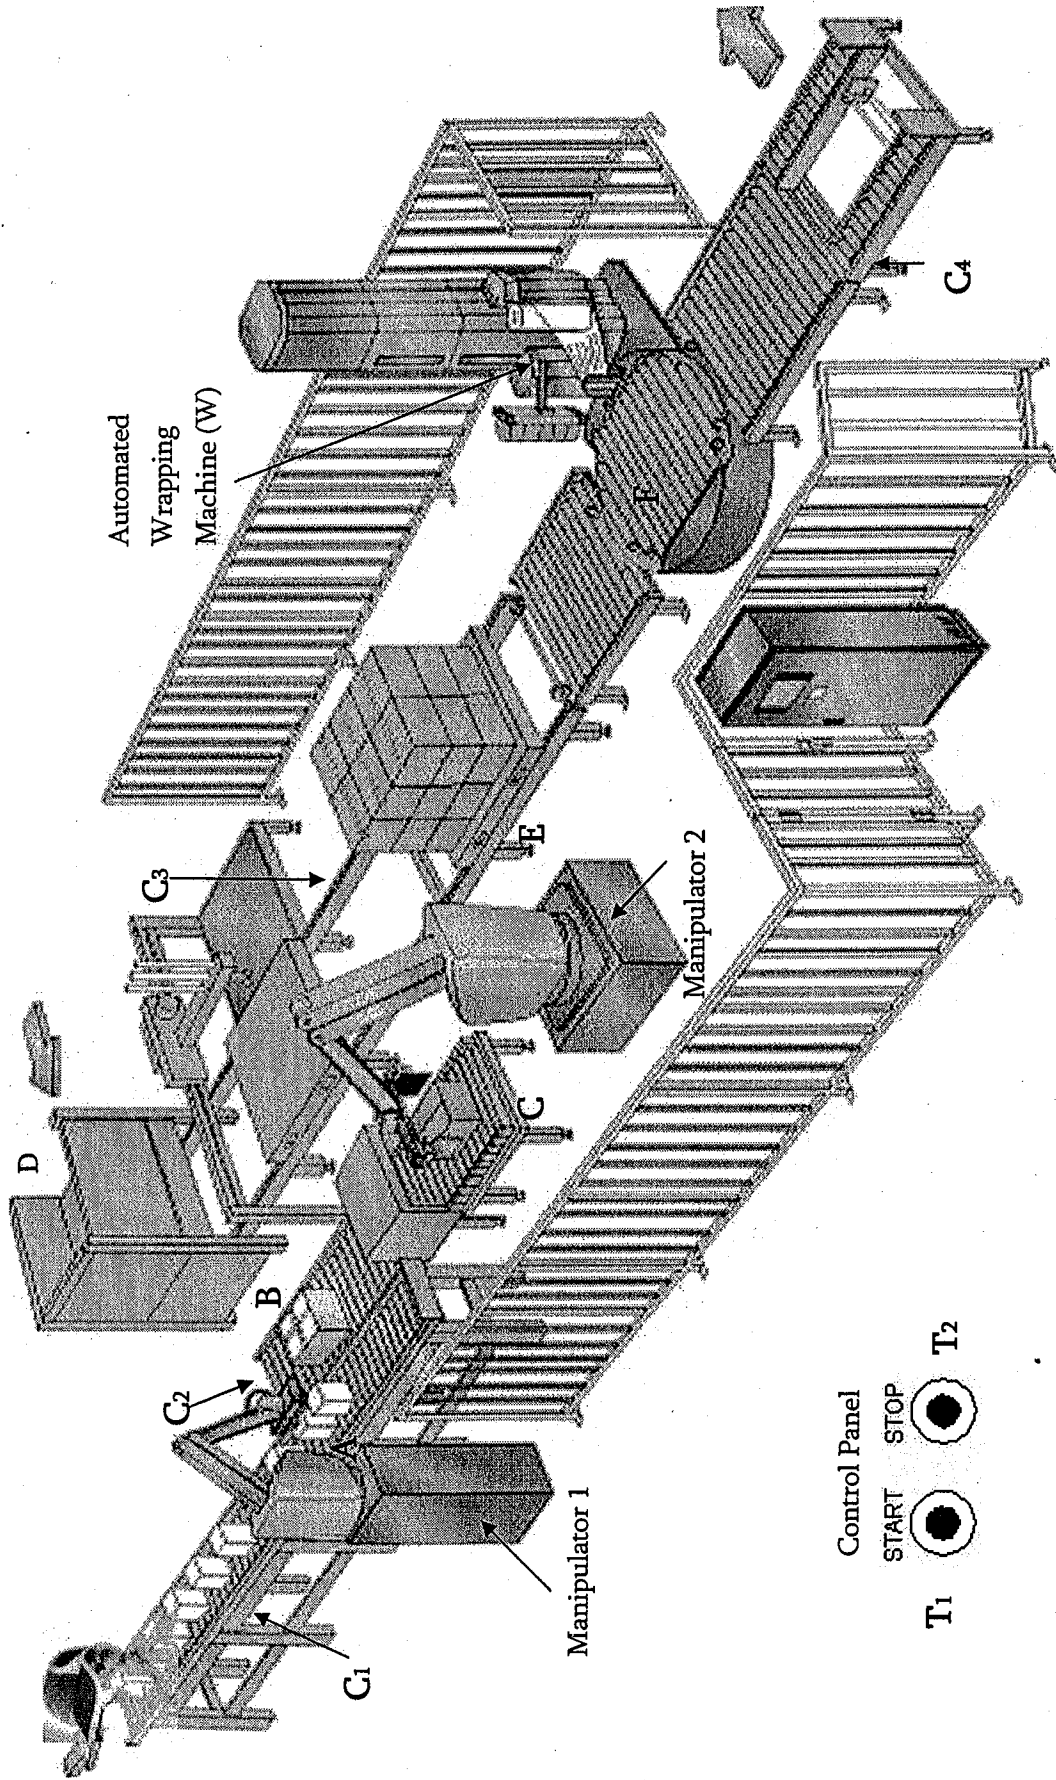

Fig.2.1
02) The Fig 2.1 shows an automated packaging system controlled by a PLC.
- II. Draw a flow chart for the problem explained in Fig.2.1 including operation of conveyors, PLC to manipulator and manipulator to PLC communication. (70 marks)
- II. Write down five (05) types of PLC programming languages. (10 marks)